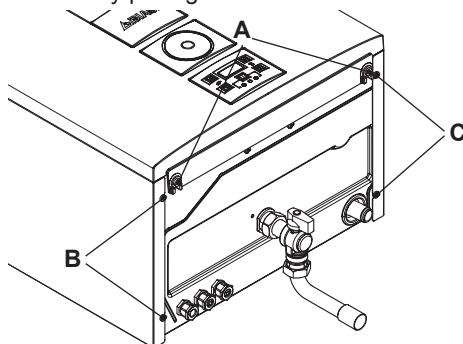
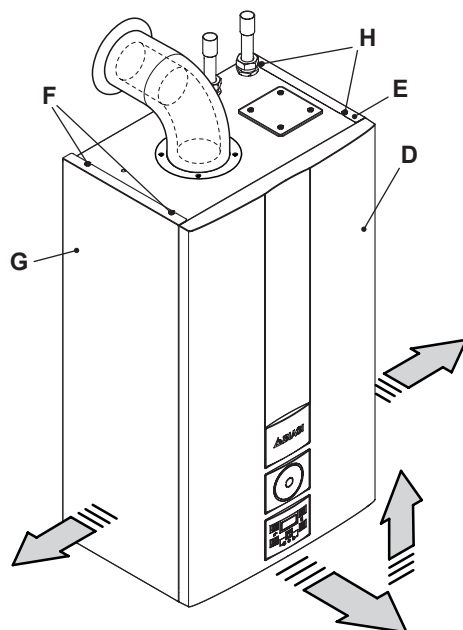

Fig. 10.1
Fig. 10.2
• Unscrew screws "A" and remove the front panel "D" by pulling it and pushing it towards the top so that it is freed from the top housings (Fig. 10.1 and Fig. 10.2).
Loosen screws "B - F" and "C - H" in Fig. 10.1 and remove the two side panels "E"
- Lock in place the panel "D" with the appropriate screws "A" (Fig. 10.1).